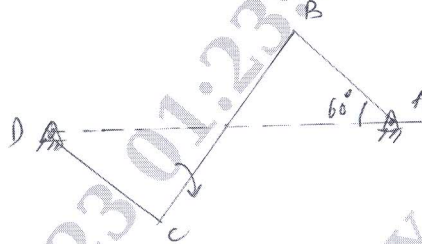

Fig. Q4 (c)
b. In the four bar mechanism shown in Fig. Q4 (b) torque T_3 and T_4 have magnitude of 3000 Nm and 2000 Nm respectively. Take $AD = 800$ mm, $AB = 300$ mm, $BC = 700$ mm and $CD = 400$ mm. For static equilibrium of mechanism, find the required input torque on the crank.